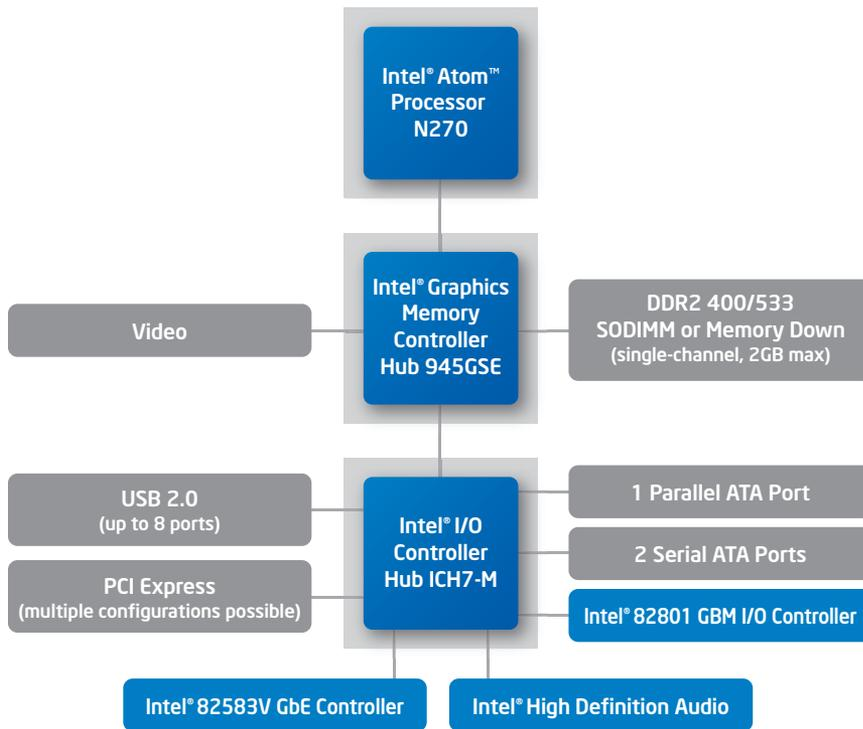

Figure 2. Intel® Atom™ Processor N270 Platform Diagram
Engineers at Intel developed a gateway demo based on the platform illustrated in Figure 2. It supports a variety of health and vital signs monitoring devices connected via personal area network (PAN) interfaces including Bluetooth\*, Bluetooth Low Energy (LE), ANT\*, ZigBee\* and WiFi. The associated radios are connected to PCI Express\* links on the platform. The Intel home health gateway demo illustrates how this platform meets key design challenges, including:
- **Engaging:** Gateway platforms based on the Intel Atom processor have the computing and high definition (HD) graphics performance needed for demanding two way video conferencing and rendering educational videos and animation. This comprehensive platform, combined with industry-leading software development tools, enables developers to create a captivating device that supports innovative, compelling applications.